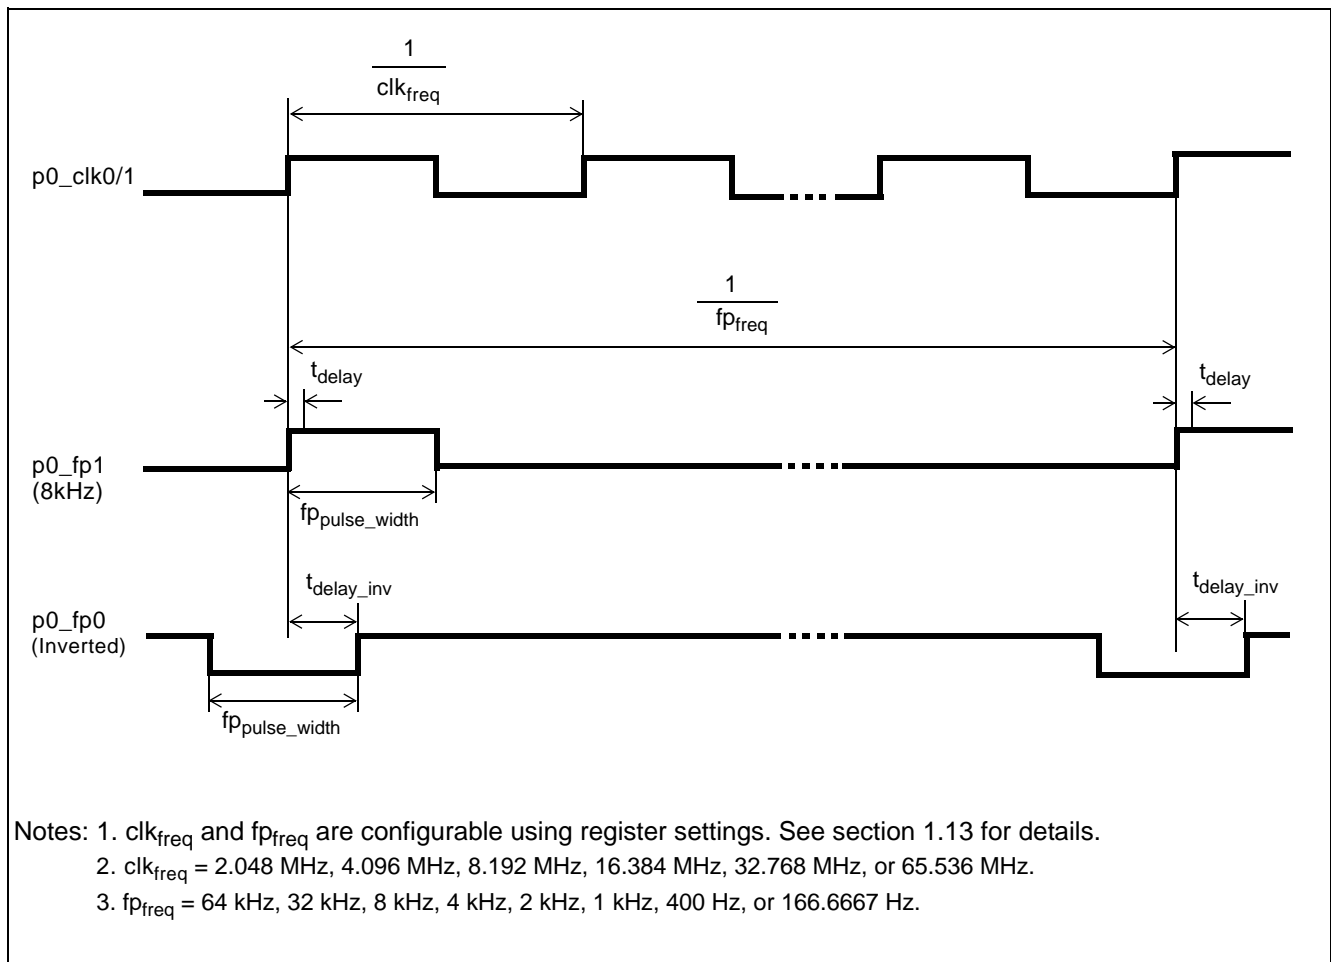

**Figure 30 - Output Clock Fall and Rise Times**
**AC Electrical Characteristics\* - Output Clock and Frame Pulse Fall and Rise Times1 (See Figure 30).**